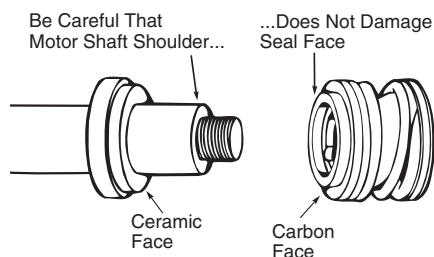

Figure 22: Protect Seal Faces
6. Apply soap solution to inside diameter and outer face of rubber drive ring. Slide seal assembly on shaft (sealing face first), until rubber drive ring slides over shaft shoulder (See Figure 22, Page 12).